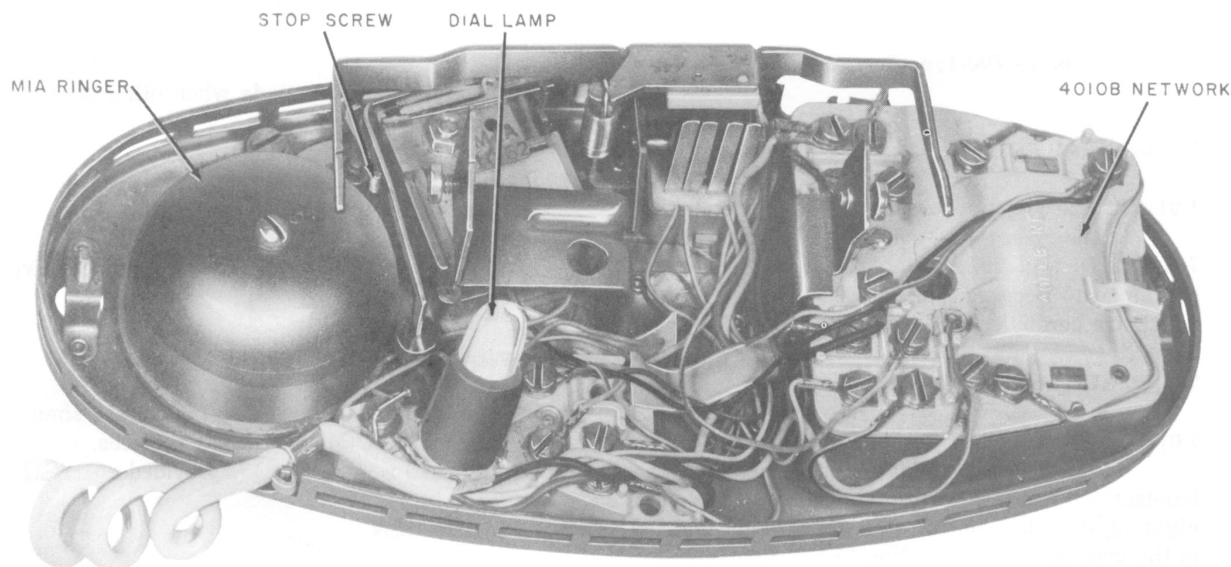

Fig. 3—702-Type Telephone Set, Dial and Housing Removed
2.06 The 702B telephone sets (Fig. 3) are similar to the 701B (MD) which it replaces, except that an internal ringer (M1A) is provided.